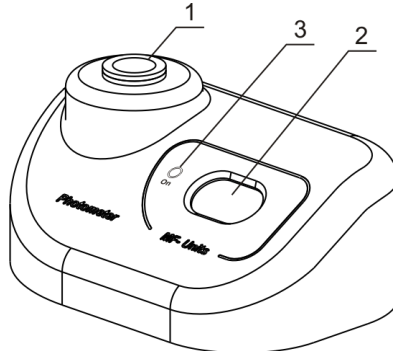

Fig.3 General view
- 3.4.5. Insert the tube with the standard solution, corresponding to the calibration point value, into the socket (fig.3/1) of Densitometer.
- The display goes off if there is no tube in the socket during one minute. Press the **On** key (fig.3/3) to activate the unit.
- Check if the **A-16** adapter is in the socket (Fig. 3/1). The device is calibrated for operation with the glass tubes 16 mm in external diameter. Refer to p. 3.4. when using different tubes.
- 4.3. The following indication may be shown on the display (fig.3/2):
4.4. Shake the tube with the solution. It is recommended to use a vortex for shaking, e.g. V-1 plus personal vortex. Insert the tube into the socket of densitometer (fig.3/1). The McFarland value for the solution will be shown on the display (fig.3/2).